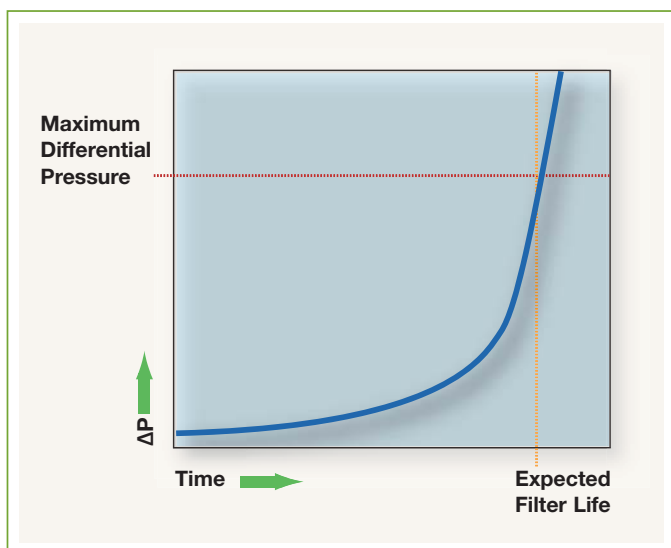

Figure 2: Type of graph used to plot data
10. Plot the data using the sample graph in Figure 2 as a guide.